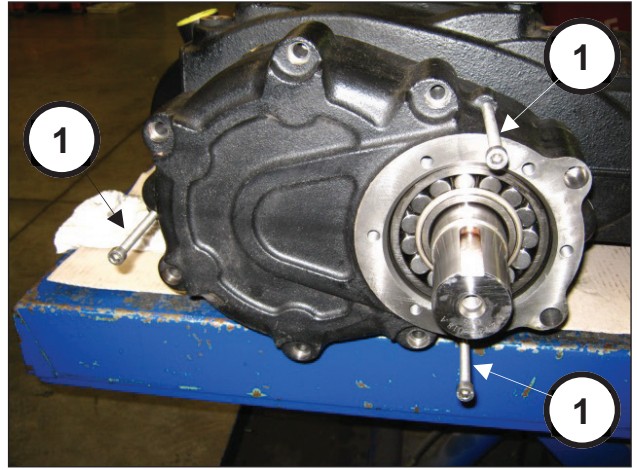

Fig. 6
Position the 3 grub screws or M8 threaded screws (pos. ①, Fig. 6) with the function of extractors in the holes.